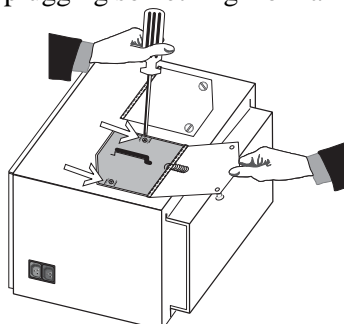

Figure 4.3.
- Step 3 ➤ Remove lamp** – Loosen the two screws securing the lamp in the lamp module. Holding the lamp door open with one hand, grasp the lamp handle and pull straight up to remove the lamp. (Figure 4.3. and Figure 4.4.) (The lamp disconnects from the terminal block much like unplugging something from an outlet.)